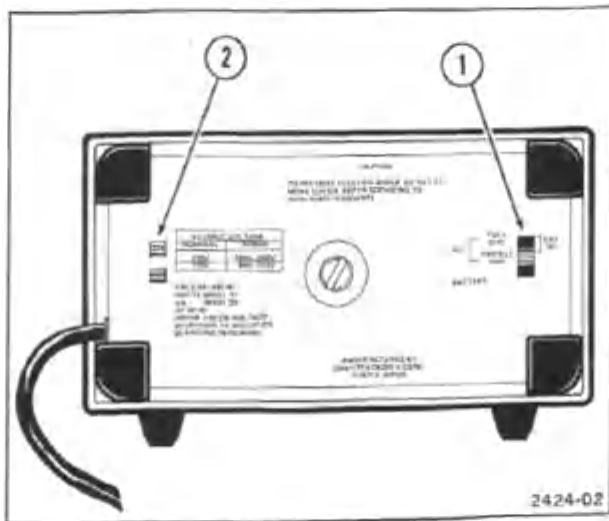

Figure 2. View of rear cover.
1. Power Source Selector switch—Three position switch provides operator selection of ac line voltage, external dc voltage or battery operation. The ac position, in conjunction with the AC Input Voltage Selector switch, allows the 305 to be operated over a range of ac line voltages. Power Source Selector switch also provides operator selection of a Full or Trickle charge rate to internal batteries (Figure 2).
2. AC Input Voltage Selector switch—In conjunction with the Power Source Selector switch, allows the instrument to be operated from 115 or 230 nominal ac line voltage (Figure 2).